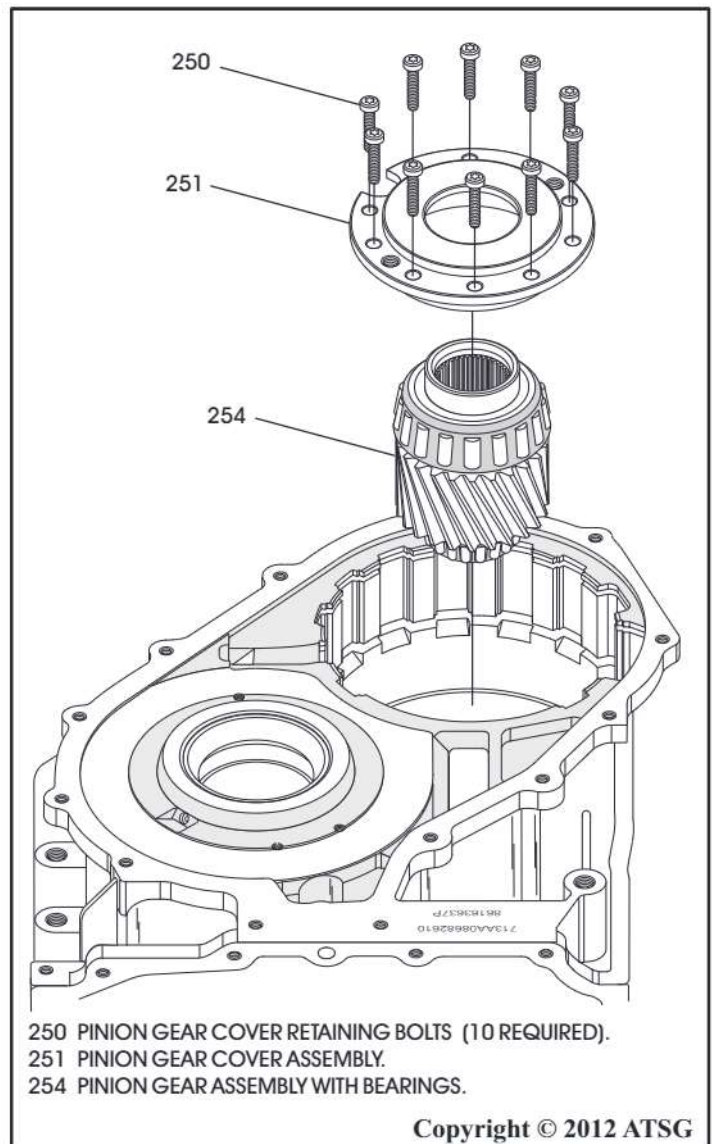

Figure 106
37. Now you can re-install the pinion gear assembly, pinion gear cover and the retaining bolts, as shown in Figure 106.